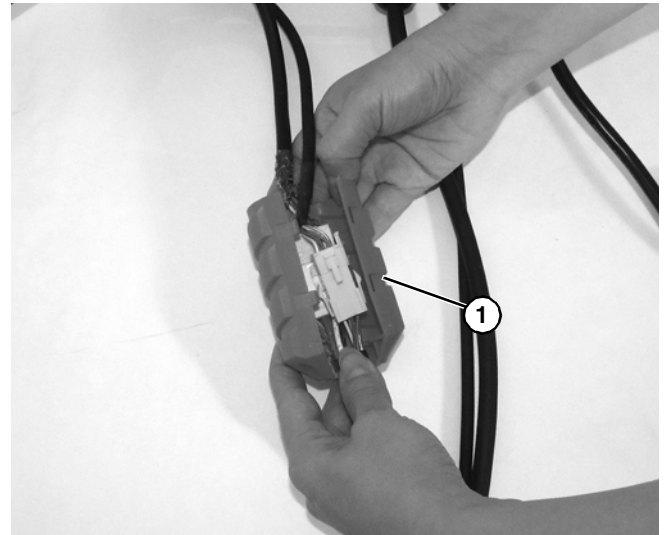

Figure 40
3. Open inner cord cover (**Figure 40, item 1**).